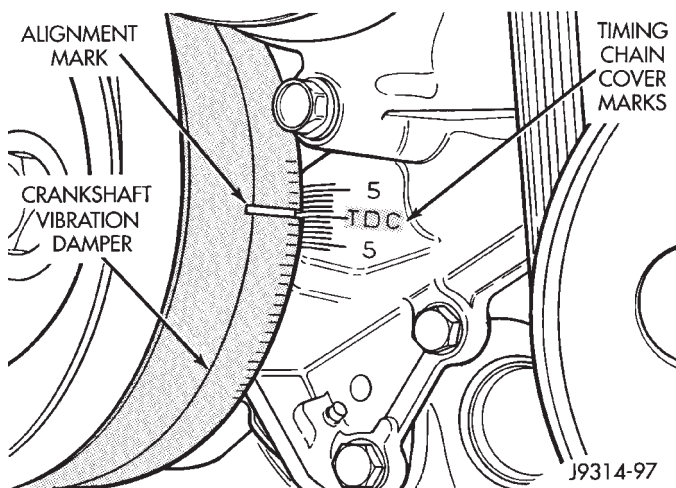

Fig. 33 Damper-To-Cover Alignment Marks—Typical
- (1) Disconnect negative cable from battery.
- (2) Remove air cleaner tube at throttle body.
- (3) Disconnect coil secondary cable at distributor cap.
- (4) Disconnect all secondary spark plug cables at distributor cap. Note and mark position before removal.
- (5) Remove distributor cap from distributor (two screws).
- (6) Mark the position of distributor housing in relationship to engine or dash panel. This is done to aid in installation.
- (7) Before distributor is removed, the number one cylinder must be brought to the Top Dead Center (TDC) firing position.
- (8) Attach a socket to the Crankshaft Vibration Damper mounting bolt.
- (9) Slowly rotate engine clockwise, as viewed from front, until indicating mark on crankshaft vibration damper is aligned to 0 degree (TDC) mark on timing chain cover (Fig. 33).
Rotate crankshaft in a clockwise direction, as viewed from front, until number one cylinder piston is at top of compression stroke (compression should be felt on finger with number one spark plug removed). Then continue to slowly rotate engine clockwise until indicating mark (Fig. 33) is aligned to 0 degree (TDC) mark on timing chain cover.